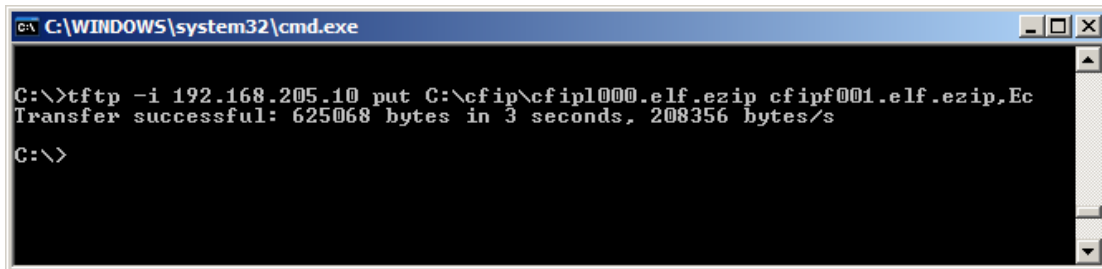

Figure 7.1.
3. Run the program that enables to use TFTP service, for example command interpreter (cmd.exe) if using Windows, see **Figure 7.1**;